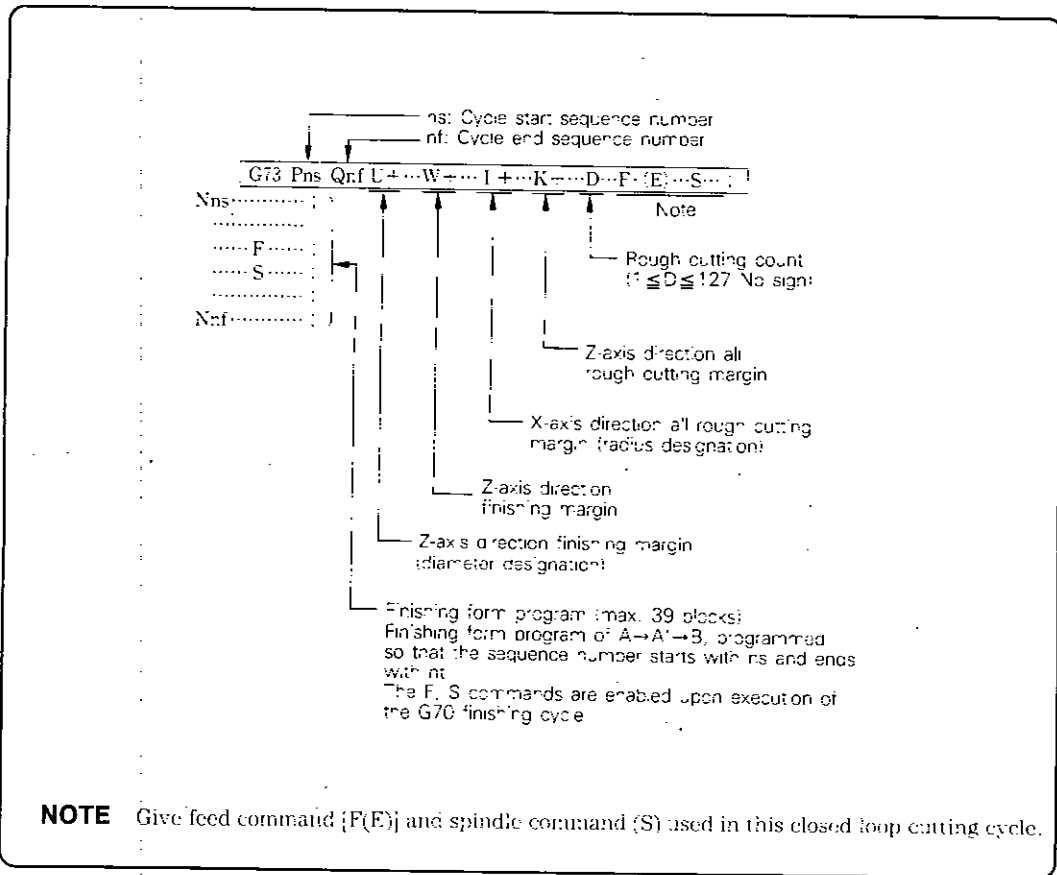
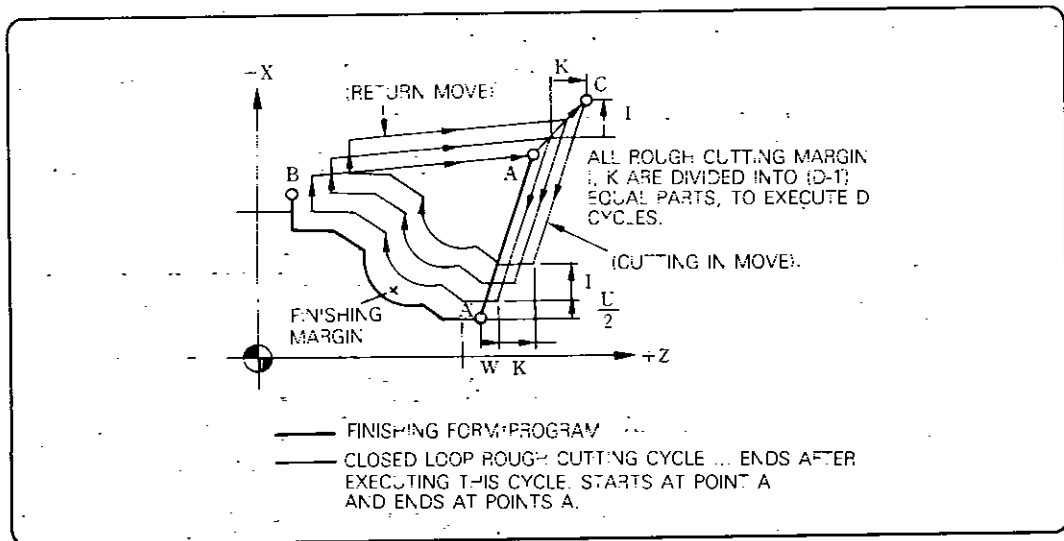

Fig. 2.13.33 Cycle Command
Fig. 2.13.34 Cycle Execution
(1) A cycle as shown in Fig. 2.13.34 is executed by the commands of Fig. 2.13.33.